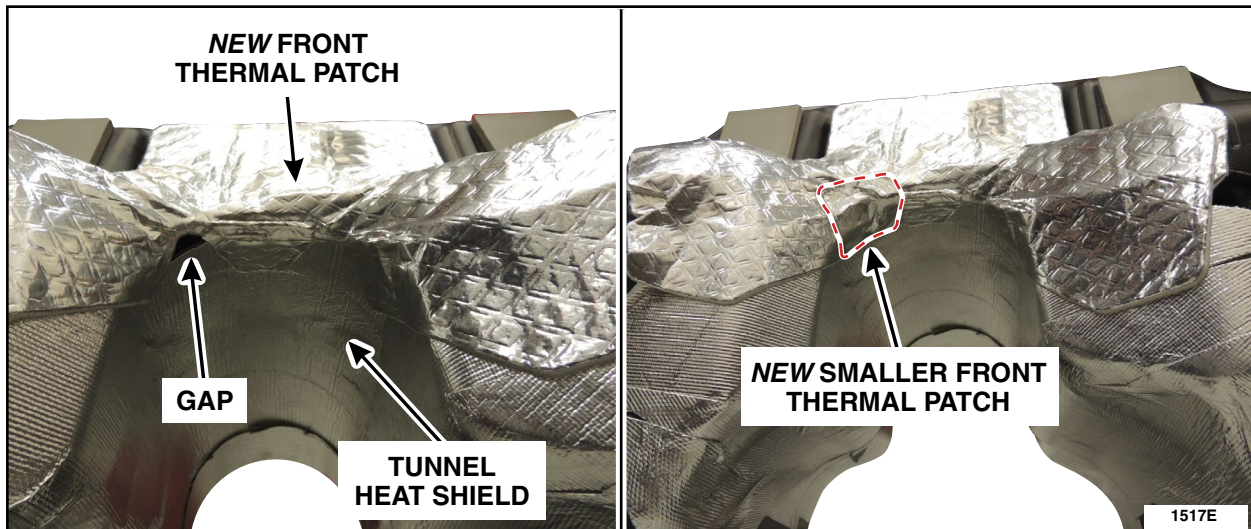

FIGURE 6
7. Apply the *new* smaller thermal patch over the gap between the tunnel heat shield and *new* front thermal patch. See Figure 6.